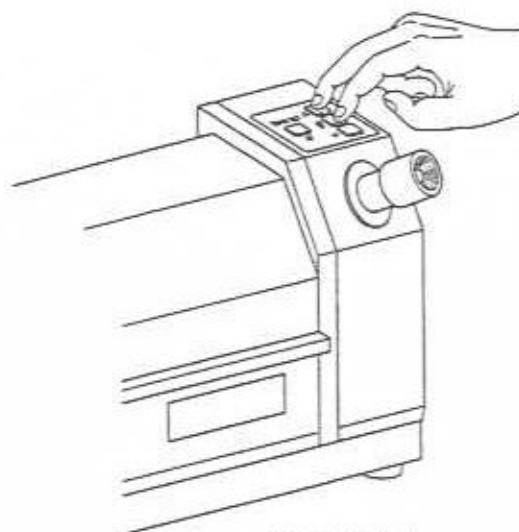

Figure 5-1
- ① Press down the power switch on the rear panel to the "I" side to turn the POLAX-2L on.
- ② Put an observation tube which is filled up with distilled water (or general tap water) on the center part of the sample stage. At that time, make sure that the ZERO SET READY lamp is on. If the ZERO SET READY lamp is off, the zero point comes off the correct point by 6° or more in angle of rotation. In such a case, press both the SHIFT/TEMP switch and the right-handed or left-handed ROTATE switch simultaneously and continue pressing the two switches until the ZERO SET READY lamp goes on. (Figure 5-1)